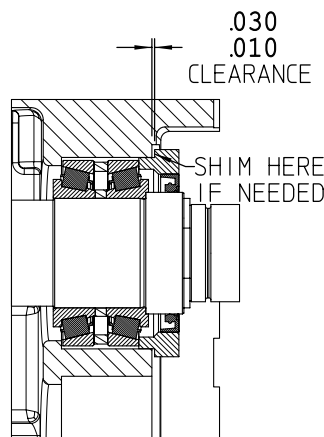

FIGURE 16
8. When back face clearance has been established in accordance with the value shown in Table 6, remove body and secure shaft assemblies in the gear box with bearing retainers. Do not apply sealant at this time. Retainers must seat firmly against the bearing and leave .050-.060" clearance between retainer and gear box. Use shims if needed to obtain this clearance. See Figure 16.